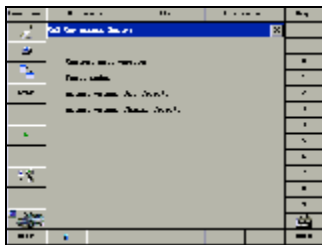

Fig.3.36
7. Select **CAS Car Access System** and you will see the interface as shown in Fig.3.36.
Select either **Actual values (all select)** or **Actual values (Manual Select)** to retrieve the real-time data stream (see Fig.3.36).